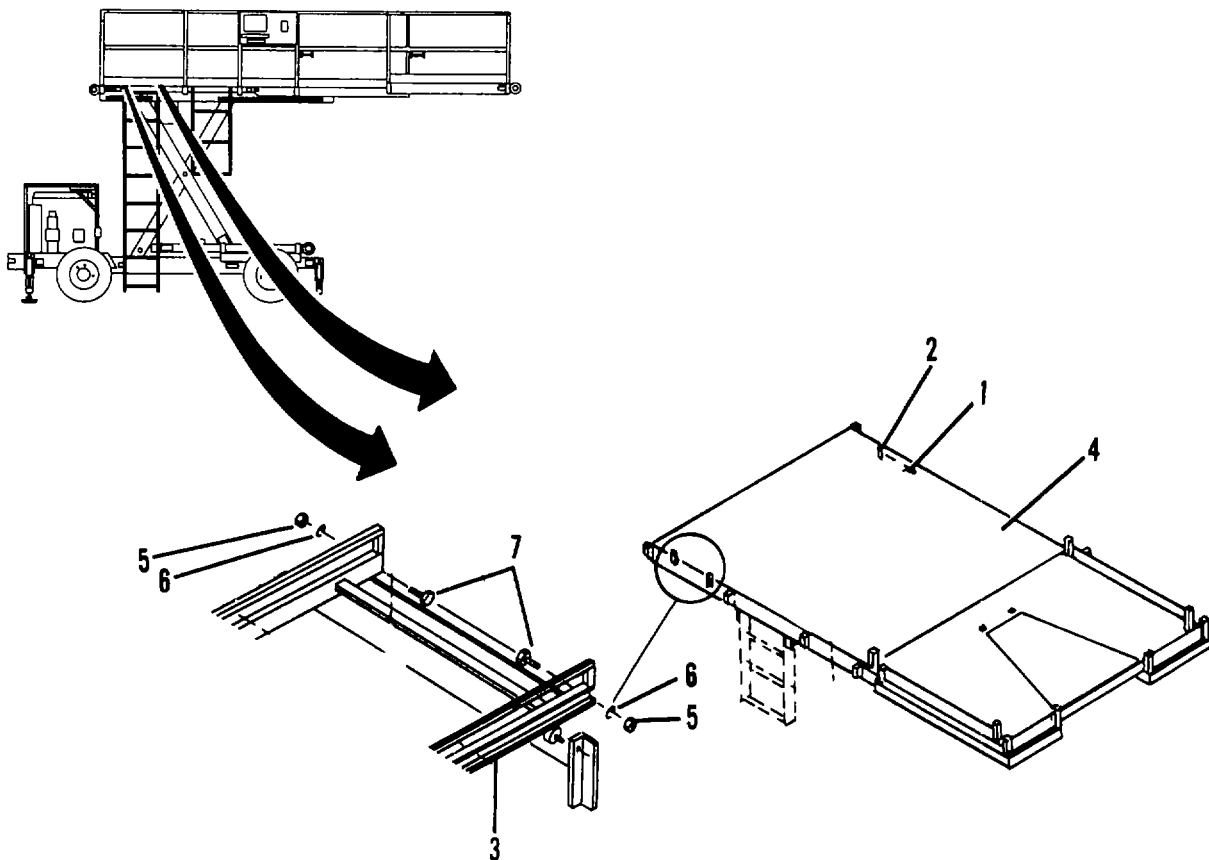

Figure 4-28. Ladder Replacement.
- (1) Remove lock clip (1, Figure 4-28) from pin (2) securing ladder (3) to platform (4).
- (2) Remove two nuts (5), two washers (6) and two capscrews (7).
- (3) Slide ladder (3) out and off platform (4).